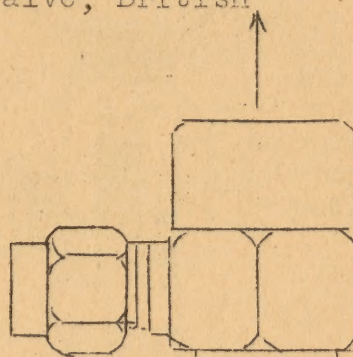

Fig. 5
- (3) Bullnose, (Fig. 5) delivers gas vertically.